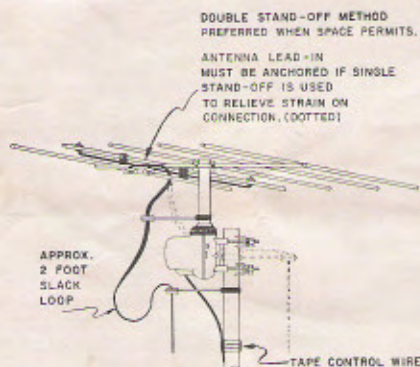

Fig. 1 — AR-10 INSTALLED
point. AR-10, in its basic configuration, (without mast adapters or thrust bearings) is recommended for any antenna which can be mounted directly to the stub shaft protruding from the top of the unit. Ideal service can be obtained from one of the current (up to seven or eight element) YAG or log periodic "in-line" antennas in suburban service with the antenna mounted directly to the stub shaft as shown in Figure 1. These antennas will normally be rated by the manufacturer for service up to 50 to 75 miles. If it is desired to mount a larger antenna such as a longer in-line type with cross braces, a die cast adapter is available, list price \$2.00 part number AOO-50461-00, which fastens to the shaft of the rotor and to a mast. The mast may then be used to attach larger antennas. When it is desired that a particularly secure installation be achieved, a thrust bearing, part number TA-6, list price \$3.30, may also be used. The thrust bearing is recommended for installation of larger antennas, when two antennas are used or in high wind areas. Exceptional service may be obtained from the heavy duty CDR rotors AR-22R automatic and TR-2C manual. The heavy duty rotors are recommended when top performance, large stacked arrays are desired or when high wind loads are encountered.
Figure 1 so that there is no chance of the slack in the lead-in loop becoming fouled. It is suggested that careful attention be paid to a neat and workmanlike connection of the control cable to the rotor terminals. Be sure to wind the connecting wires around the terminal screws so that tightening of the screws tightens the wire. Also be sure that no excess wire is left between terminals; that insulation is snug against the terminals; and that a little slack is left between the terminals and the cover plate. The control cable should be run in a short loop to the mast and taped securely in place. To avoid flexing in wind the cable should be secured at 4 to 6 foot intervals down the mast and tower. The lead-in should be anchored using appropriate stand-off insulators.
1. Install antenna rotor on rotor mounting pole using clamps, nuts and lockwashers furnished with antenna rotor. Refer to installation instructions furnished with antenna rotor. Install as shown in figure 1.